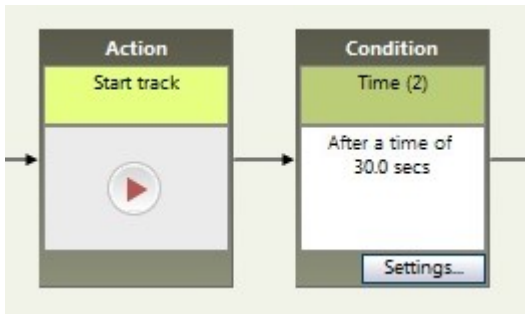

Figure 59 A condition box that waits 30 seconds for both arenas.
- There may be parts of the protocol shared between arenas. In the example of Figure 59, the first 30 seconds after the start of the trial are the the same for the two arenas. Therefore, one condition box after the **Start track** box will suffice.